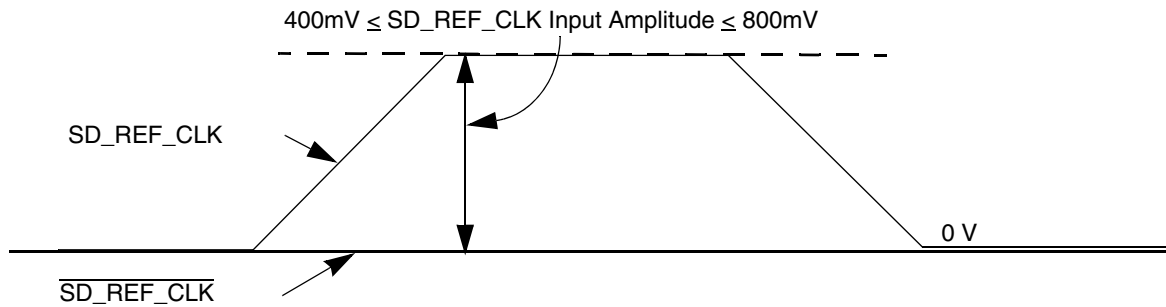

Figure 40. Single-Ended reference clock input DC requirements
- The  $\overline{\text{SD\_REF\_CLK}}$  input average voltage must be between 200 and 400 mV. Figure 40 shows the SerDes reference clock input requirement for single-ended signaling mode.